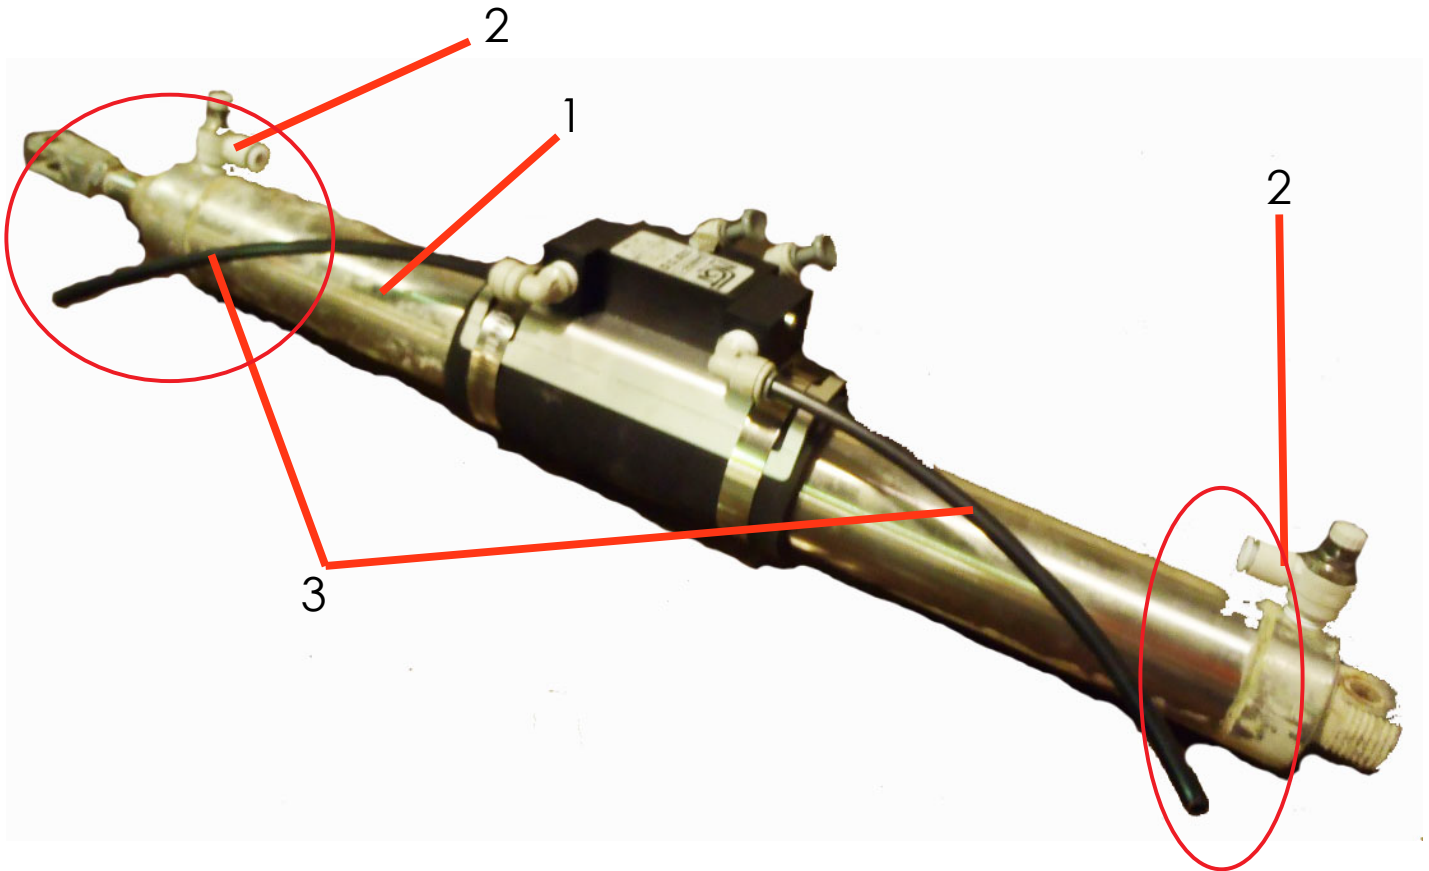

Figure 7
7. Figure 7 - Install new speed control fittings (2) onto cylinder (1) as shown. Fittings do not require adjustment for proper air flow. **NOTE: Do NOT connect air tubes (3) at this time.**